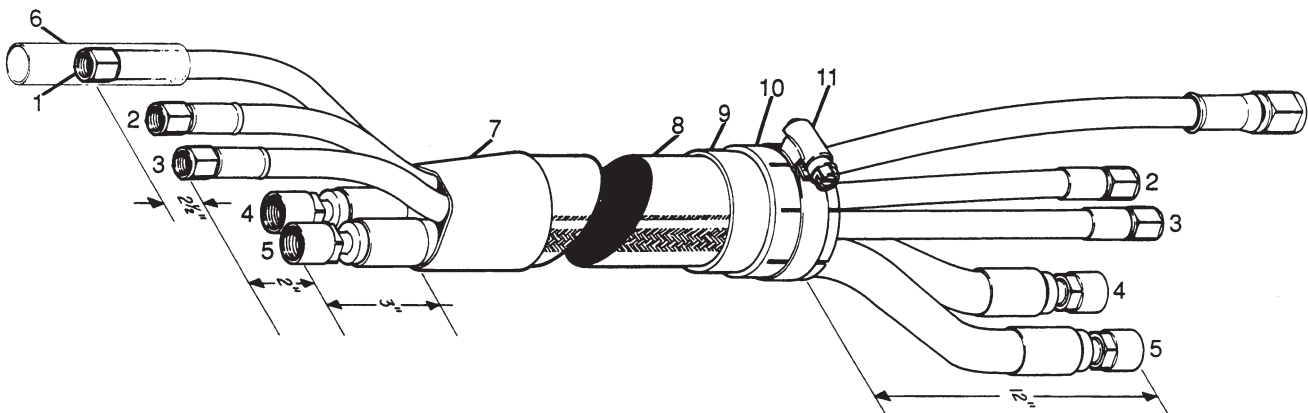

Figure 5-2 Machine Torch Lead Assembly
To remove and replace individual torch leads, perform the following procedure and see Figure 5-2. Refer to the *Machine Torch Lead Assembly Parts* list.
2. Ensure the lead lengths (1-5) at both ends are in accordance with those called out in Figure 5-2.
4. Slide the shield braid (8) over the torch lead ends and pull the sheath until it approximates the length requirements called out in Figure 5-2.
6. Slide the shrink tubing (7) over the torch end of the shield braid. Heat the shrink tubing until it tightly bonds around the shield braid and torch lead.
7. Replace the compression ring (9), shield collar (10), and hose clamp (11) over the power supply end of the shield braid.